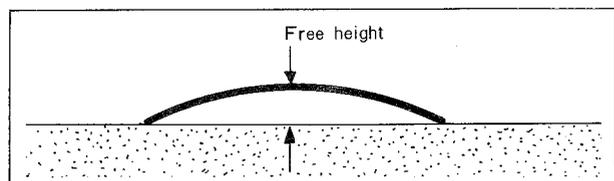

Fig. 1-46 Checking apex seal spring
5. Check the free height of the apex seal spring as shown in Fig. 1-46. It should be more than **3.8 mm (0.15 in)**.